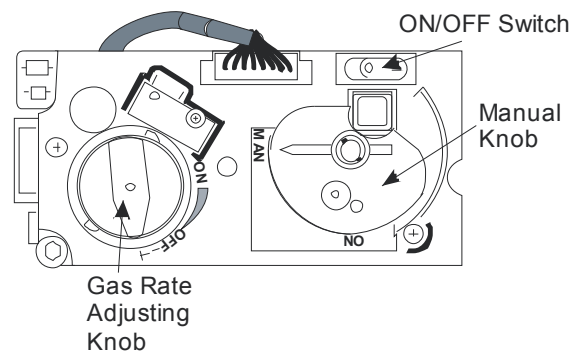

Figure 10
2. Turn the Manual knob clockwise to **MAN** position (see **Figure 10**).